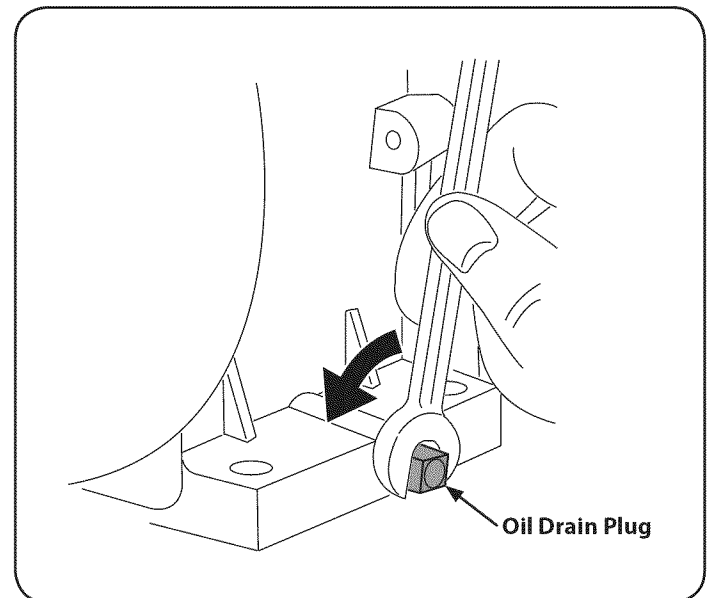

Figure 8
3. Remove the oil drain plug, Figure 8.